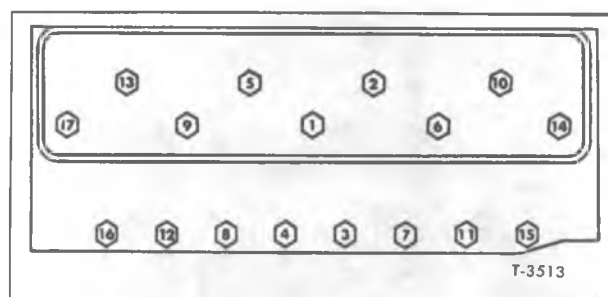

Figure 32—Cylinder Head Bolt Tightening Sequence on 350 V-8 Engine
5. Tighten each cylinder head bolt a little at a time in the sequence shown in figure 32 or 33 until the specified torque is reached.